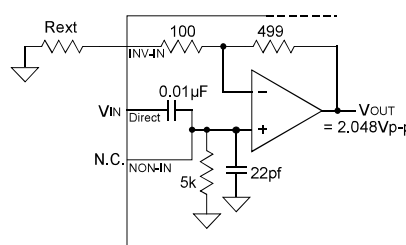
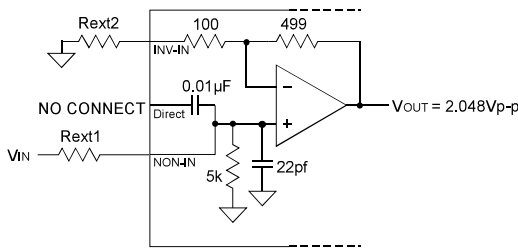
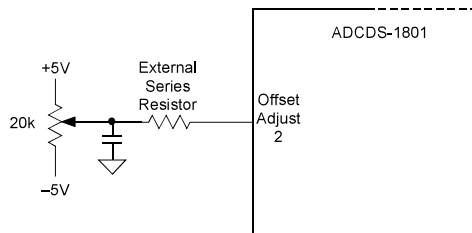

Figure 2b. Direct Mode
Figure 2d. Non-inverting Mode
Figure 3. Offset Adjustment Circuit
3. Offset adjustment resistor (Figure 3), Rext (Figure 2b, 2c, & 2f), and Rext1 & Rext2 (Figure 2d) should be placed as close to the ADCDS-1801 as possible.
When applying inputs that are less than 2.048Vp-p, a coarse gain adjustment (applying an external resistor to Inverting Input) must be performed to ensure that the full scale pixel data input signal (saturated signal) produces 2.048Vp-p signal at the input-amplifier's output (VOUT) (See figure 2b & 2c).
The ADCDS-1801 achieves its specified accuracies without the need for external calibration. If required, the device's small initial offset error can be reduced to zero using the OFFSET ADJUST feature (See figure 3). For fine gain adjustment model, contact the factory.
Figure 2b. describes the configuration for applications using a pixel data input signal with an amplitude greater than 0.342Vp-p and less than 2.048Vp-p. Using a single external series resistor, the coarse gain of the ADCDS-1801 can be set. The coarse gain of the input amplifier can be determined from the following equation: VOUT = 2.048Vp-p = VIN\* (1+(499/(100+Rext))) (all internal resistors having a 0.1% tolerance).
Figure 2d. describes the typical configuration for applications using a pixel data input signal whose amplitude is greater than 2.048Vp-p. Using a single external series resistor (Rext1) in conjunction with the internal 5K (1%) resistor to ground, an attenuation of the input signal can be achieved. The coarse gain of this circuit can be determined from the following equation:
Manual offset adjustment for the ADCDS-1801 can be accomplished using the adjustment circuit shown in Figure 3. A software controlled D/A converter can be substituted for the 20KΩ potentiometer. The offset adjustment feature allows the user to adjust the Offset/Dark Current level of the ADCDS-1801 until the output bits are 00 0000 0000 0000 and the LSB flickers between 0 and 1. The ADCDS-1801's offset adjustment is dependent on the value of the external series resistor used in the offset adjust circuit (Figure 3) and the gain of the input-amplifier.